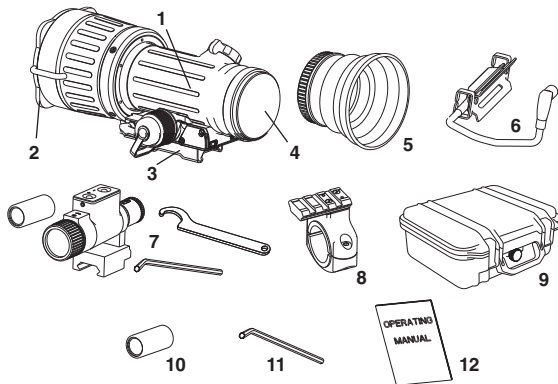
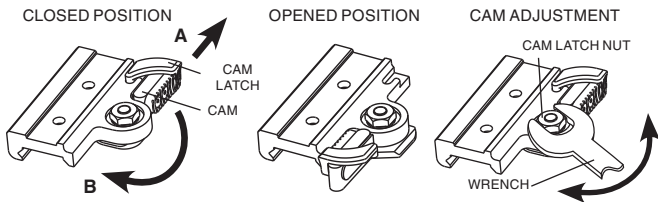

FIGURE 1-1. PS-40A STANDARD COMPONENTS
FIGURE 2-4. QUICK RELEASE MOUNT
The PS-40A standard components are shown in Figure 1-1 and presented in Table 1-6.
1. Take off the output lens cap (Figure 1-1, 4) and put it into the storage case.
3. To open the sight Quick Release Mount , slide the cam latch forward (Figure 2-4, arrow A) and turn the cam backward (arrow B).
6. The Quick Release Mount may be adjusted to eliminate excessive play when mounted on the rail by using the provided Allen key (Figure 1-1, 13) to increase/decrease the cam latch nut (Figure 2-4).